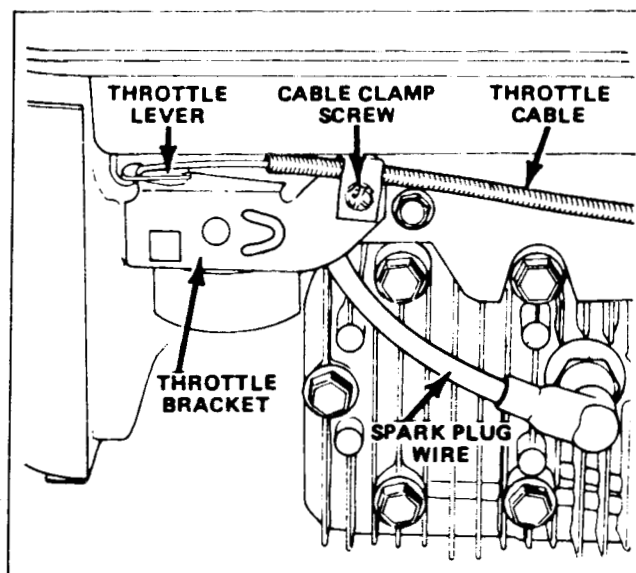

Figure 12
3. Loosen the cable clamp screw until the throttle cable slides. See Figure 12. Align the holes in the throttle lever and throttle bracket using a 3mm (.121") diameter pin. Tighten the cable clamp screw to lock the adjustment in place.